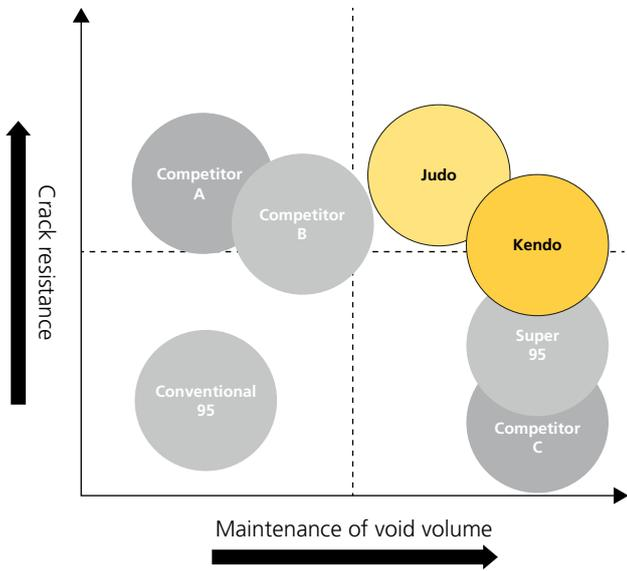
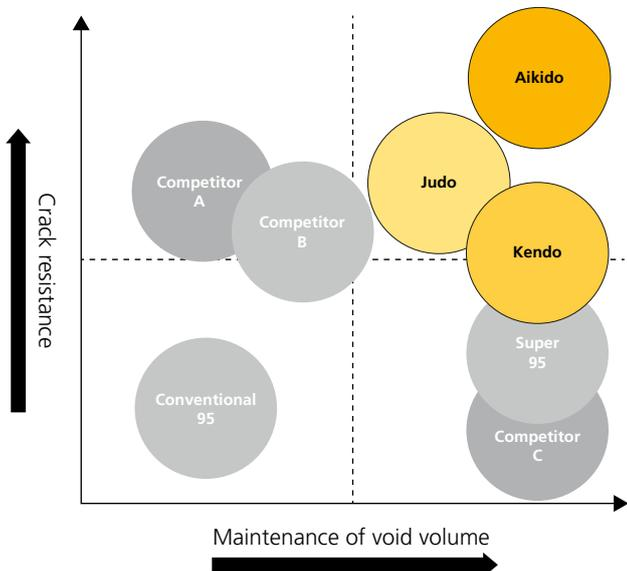

Fig 1: Yamabelt, Kendo and Judo in comparison
Fig 2: Yamabelt Aikido: Properties further improved
- The air circulation in the pockets was not optimal. A large part of the fresh air supply was being used to stabilize the sheet and was therefore not available as pocket air for evacuation of the evaporated water (Fig 1).
Initial conditions (Fig 1)
- Provision of fresh supply air to the stabilizers has been reduced (Fig 1 to 2) and later completely closed (Fig 2 to 3)
Step 1: Fresh air to the stabilizers reduced (Fig 2)